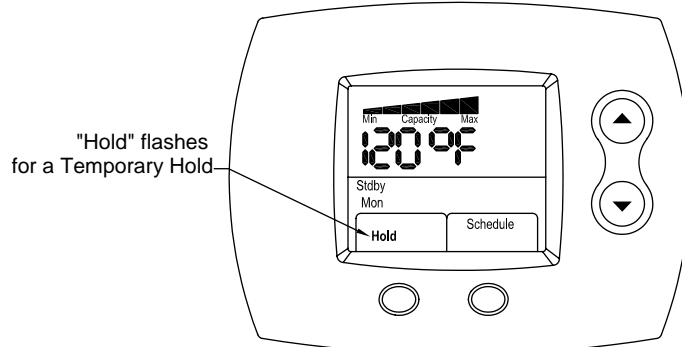

Figure 104
Step 2: A temporary hold will maintain the water heater setpoint at the new setting for two hours. Then, the Setback Control will revert back to its programmed schedule. When the Setback Control is in a temporary hold, the "Hold," in the lower left corner of the display, will be flashing. This is shown in Figure 104.